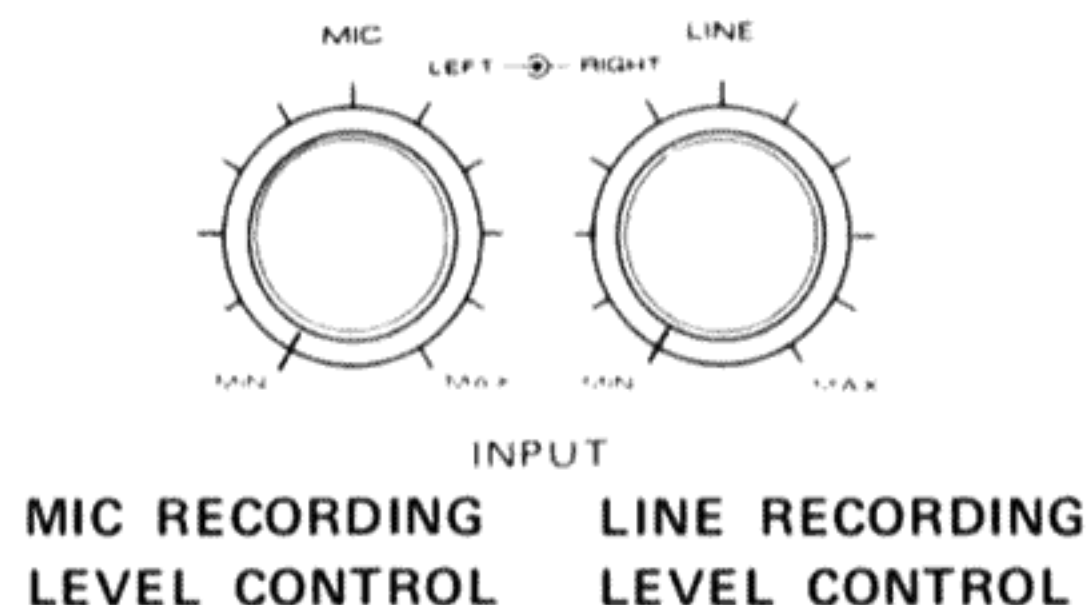

Fig. 29
9. Set both MONITOR switches at position SOURCE. The level meters now indicate the level of the incoming signal so that you can adjust the LINE recording level control for optimum recording quality. If the deck is connected to the amplifier via its DIN-type REC/PB connector, the recording level must be adjusted with the MIC recording level control. Refer to Fig. 29. For details, refer to paragraph "Proper Recording Level Adjustment" on page 15.